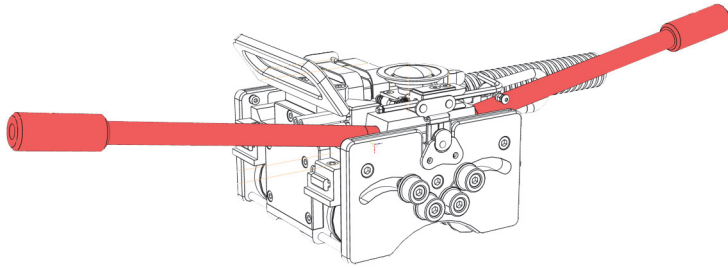

Figure 2-9 WeldROVER—Two steering levers are provided with the system
1. Determine the required steering lever position(s): at the front or back of the WeldROVER, or at both locations (Figure 2-9 on page 42).